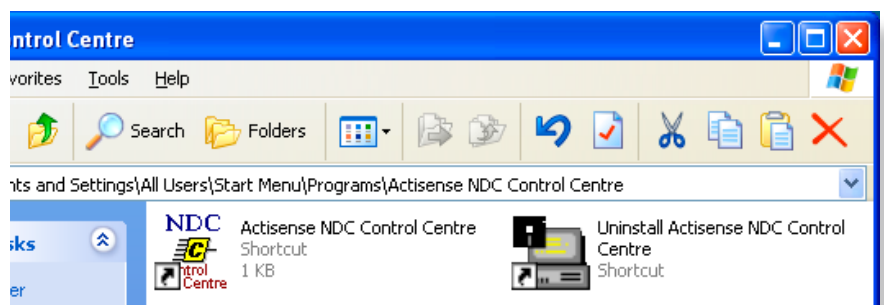
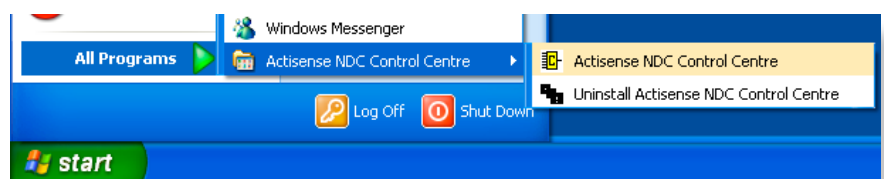

Figure 7 - 'Start Menu' Short-cuts
Figure 8 – 'Start Menu' Short-cuts
5. From the 'Start Menu' navigate to the 'Actisense' directory and double click on the 'Program' icon (refer to **"Figure 7 - 'Start Menu' Short-cuts"** and **"Figure 8 – 'Start Menu' Short-cuts"**).
1. To uninstall the program, from the 'Start Menu' navigate to the 'Actisense' directory and double click on the 'Uninstall' icon (refer to "Figure 7 - 'Start Menu' Shortcuts" on page 16 and "Figure 8 - 'Start Menu' Shortcuts" on page 16).